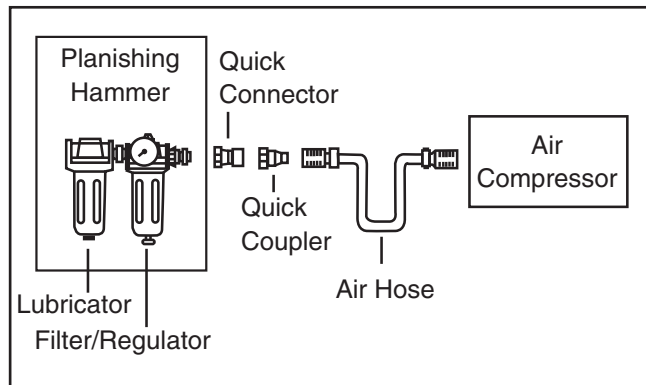

Figure 2. Correct air supply setup.
1. Connect the planishing hammer to the air supply as shown in **Figure 2**.